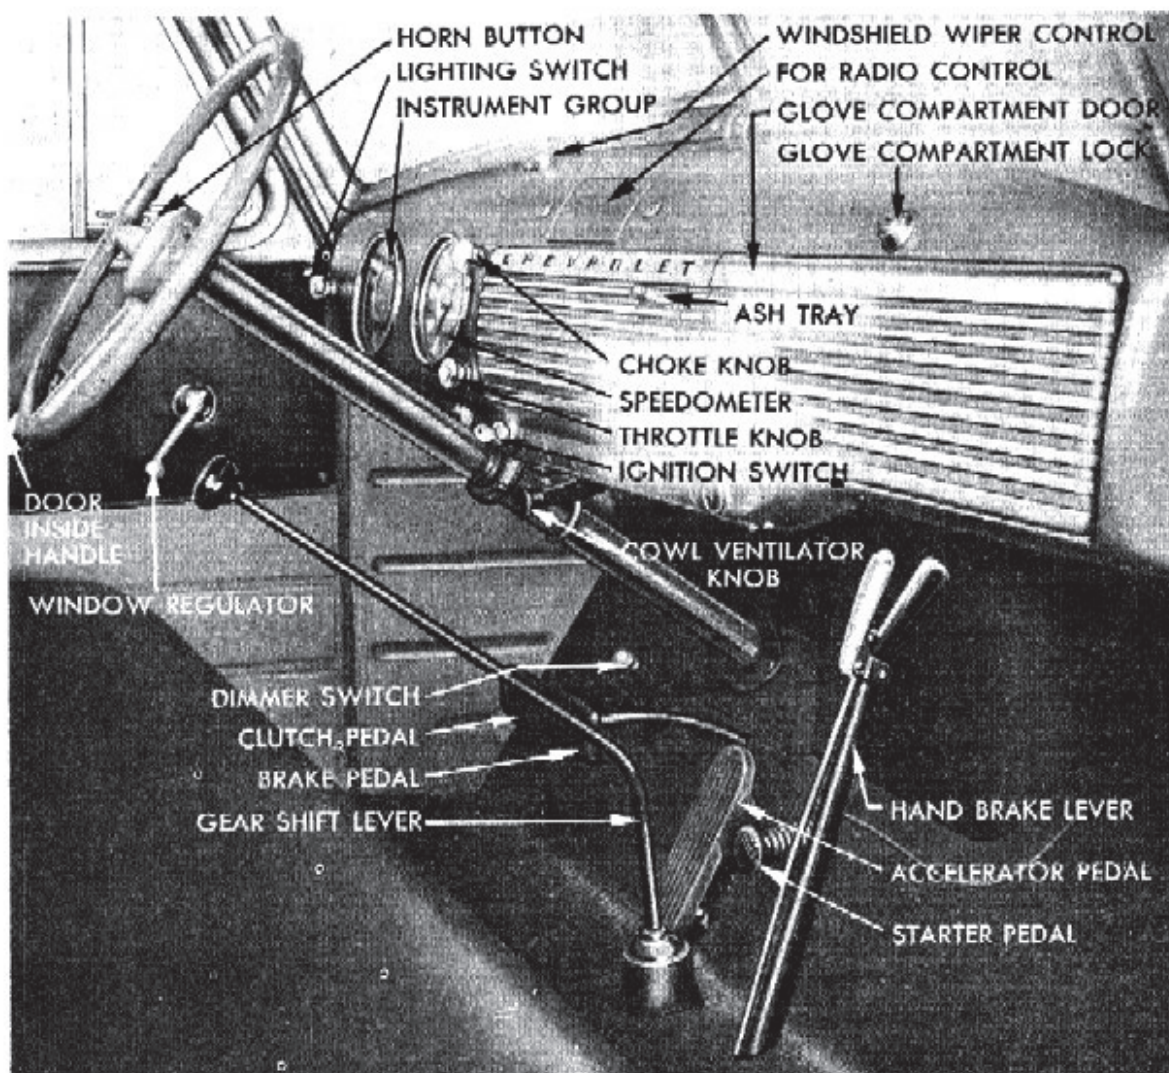
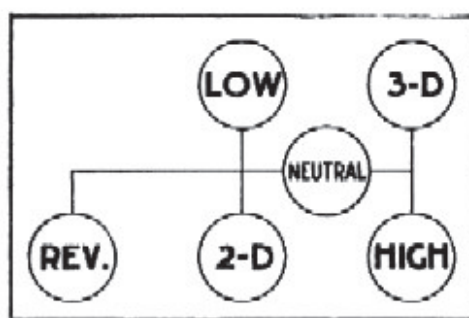
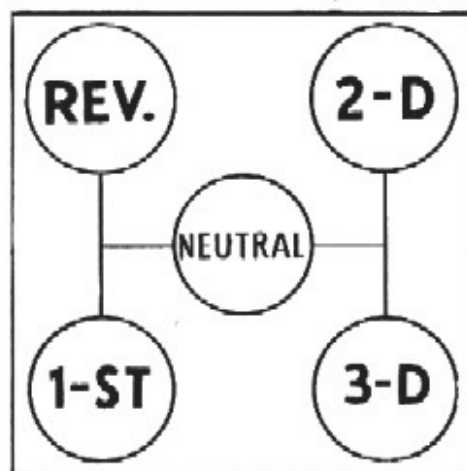

Fig. 2—Controls and Instruments—1½ and 2 Ton
Fig. 11—Four Speed Transmission Shifting Diagram
Fig. 12—Three-Speed Transmission Shifting Diagram
**Parking Brake.** On all  $1\frac{1}{2}$  and 2 Ton, except C.O.E., the parking brake is a propeller shaft brake, hand operated with lever extending up through floor to the right of the gear shift lever and with the grip just below the instrument panel (fig. 2). Hand brake lever on C.O.E. is to the left of the gearshift lever. Pulling this lever back applies the propeller shaft brake by
**Gearshift Lever (4-speed Synchro-mesh Transmission)** extends to the left and back from transmission cover dome at center of floor (fig. 2). This lever is used to shift the transmission gears to the desired position. Figure 11 shows the lever knob positions when the transmission is in neutral, reverse and the four forward speeds. To shift the transmission into any of the forward speeds, disengage the clutch, move the lever across neutral to right or left as desired, and then forward or back into gear.
Figure 12 shows the gearshift pattern in neutral, reverse and three forward speeds. To shift into any gear position, disengage the clutch, move the shift lever up
2. Move gearshift lever into low gear position. (If 4-speed transmission see Figure 11, or if 3-speed transmission see Figure 12.)
1. Depress clutch pedal and release accelerator at the same time. Move the shift lever into neutral and then to the next higher gear. See shifting diagrams, Figures 11 and 12.
2. Move shift lever across neutral to left, against the spring tension as far as it will go. Move lever back into reverse (fig. 11).
2. Raise shift lever up across neutral and forward into reverse position. (fig. 12).